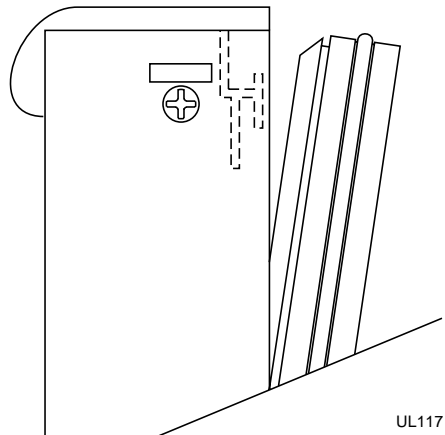

Figure 27
4. Pull door gasket out of groove (top edge of door only). Start in the middle and pull outwards, moving towards the edge (see Figure 27). This may take some force.